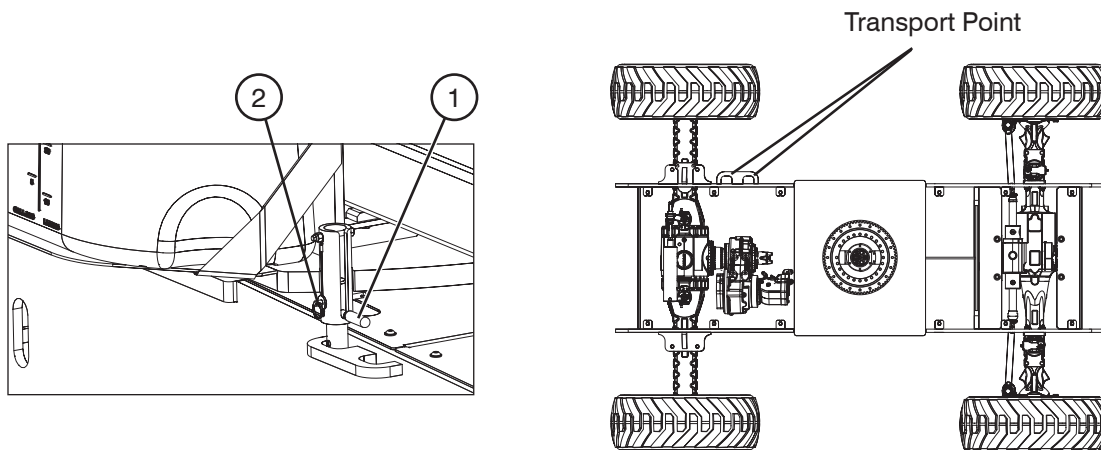

Figure 2-10. Turret Transportation Lock & Locking Points
1. Ensure that turret is positioned so that turret transportation lock tube (item 1 - Figure 2-10) is aligned into one of two turret locking points in the turret rotation lock plate.
2. Pull out turret lock retaining pin (item 2 - Figure 2-10). Lower turret lock into locked position and reinsert turret lock retaining pin.
1. Place boom in stowed position centered between drive wheels. Lock turret using turret transportation locking pin (refer to Section 2.12-2) into the transport point (refer to Figure 2-10).